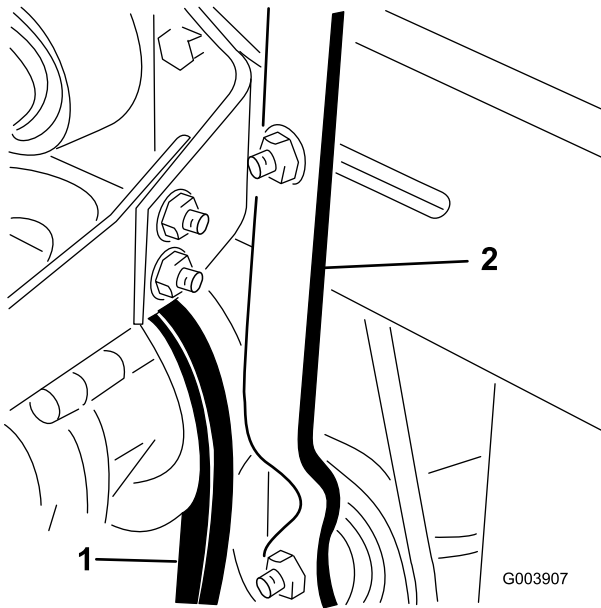

Figure 70
1. Loosen the locknut on the belt tensioner lever (Figure 70).